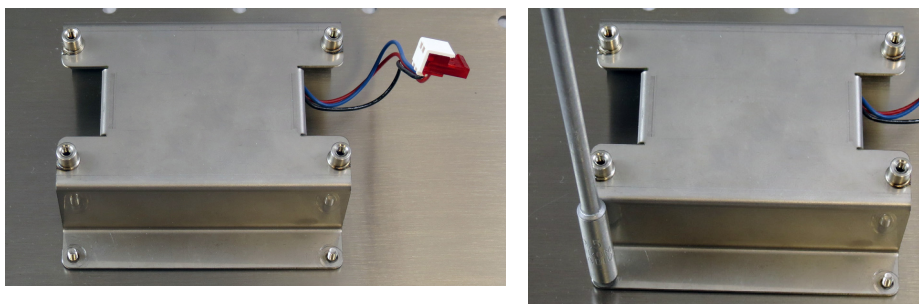

Figure 8 Battery bracket
3. Place the battery bracket over the battery pack, as shown, and secure it in place with the four nuts provided in the kit, as shown in Figure 8.